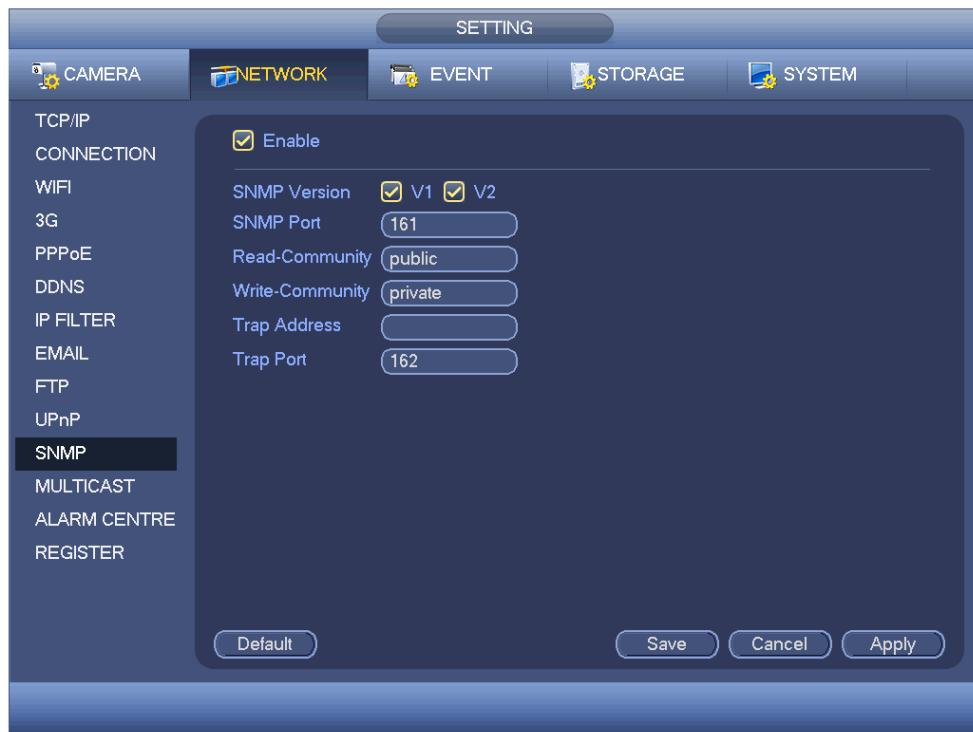

Figure 4-85
SNMP is an abbreviation of Simple Network Management Protocol. It provides the basic network management frame of the network management system. The SNMP widely used in many environments. It is used in many network device, software and system. You can set in the following interface. See Figure 4-85.
- In Figure 4-85, check the box to enable the SNMP function. Input the IP address of the PC than is running the software in the Trap address. You can use default setup for the rest items.